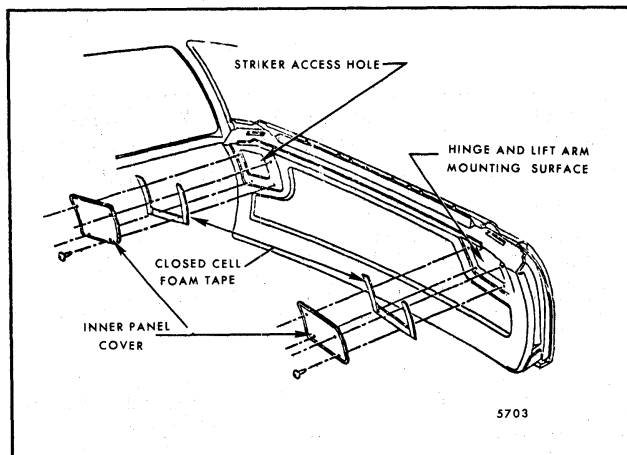

Fig. 7-118-Tailgate Access Hole Covers
1. Remove screws securing access hole cover to tailgate (Fig. 7-118).